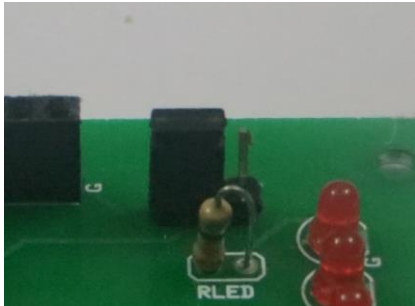

Figure 8. Jumper position for LCD selection
**Light Emitting Diodes (LEDs):** They are connected to PORT C. The whole PORT C needs to be configured as output to operate these. LEDs and LCD will not work together as they are connected to the same PORT i.e. PORT C. Their operation is mutually exclusive. So a jumper connector is provided to choose between the two. Refer Figure 8 and 9 for the connection method.